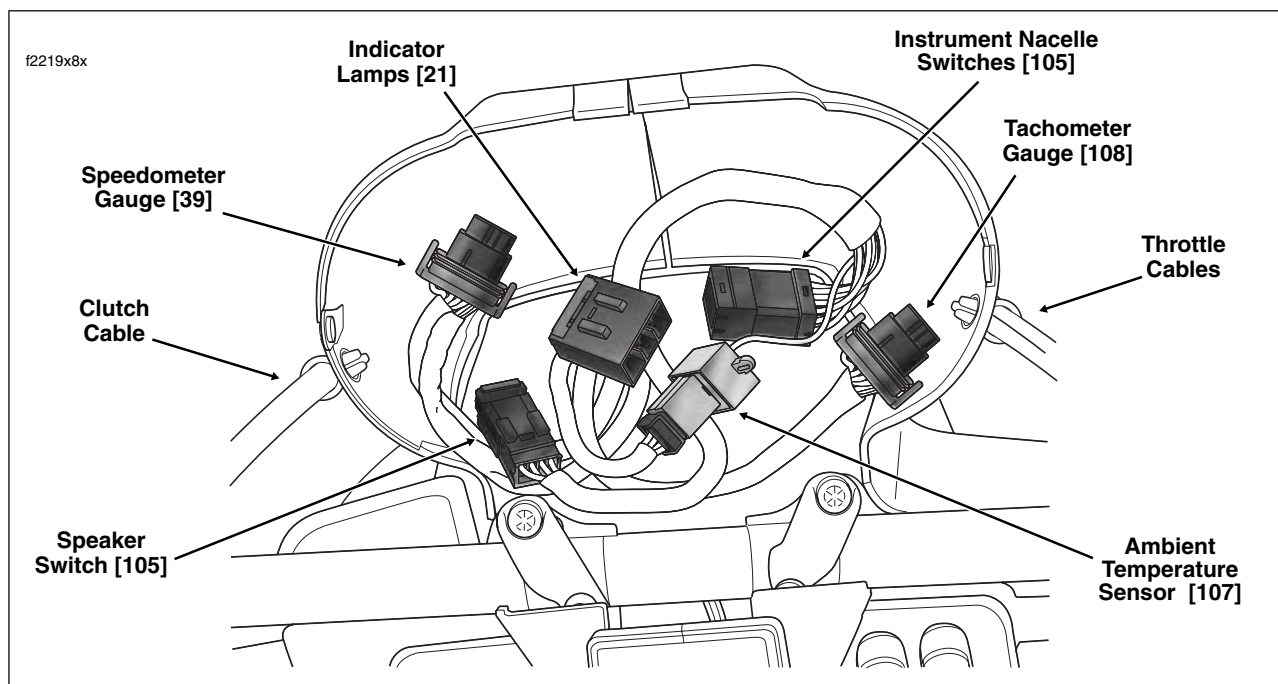

Figure 8-78. Instrument Nacelle (Bezel Removed)
4. See Figure 8-78. Disconnect instruments and indicator lamps from interconnect harness as follows:
- a. See Figure 8-78. Disconnect left side switch from instrument nacelle switch harness as follows:
- b. See Figure 8-78. Disconnect instrument nacelle switches from interconnect harness as follows:
- d. See Figure 8-78. Connect left side switch to instrument nacelle switch harness as follows:
- f. See Figure 8-78. Connect left side switch to instrument nacelle switch harness as follows:
- g. See Figure 8-78. Connect instrument nacelle switches to interconnect harness as follows:
3. See Figure 8-78. Looking into the instrument nacelle, connect instruments and indicator lamps to interconnect harness as follows: